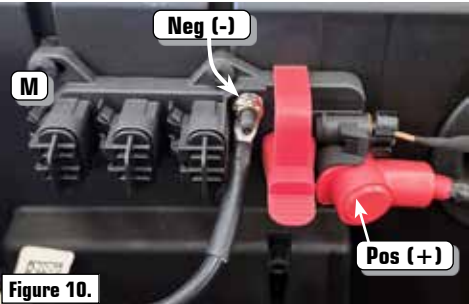

Figure 8.
15. From the passenger side of the vehicle, route the remaining power harness under frame rail [H] (see Figure 7) and up behind the plastic radiator guard, while following the round tube frame [J] (Figure 8) to the side of the radiator.
16. Secure the Power Harness to the vehicle at specific points using included push-in zip ties at the starred locations; taking up slack as you go. See Figure 8. Route harness through outlet [K] into front hood compartment.